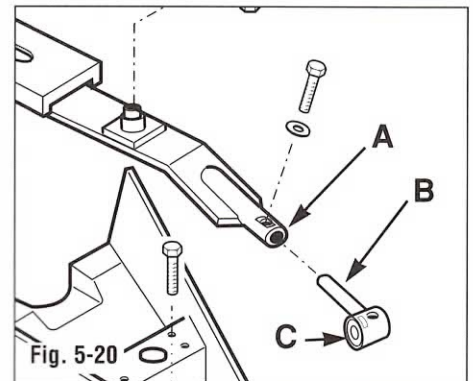

Fig. 5-20
The eccentric arm weldment tube (A, Fig. 5-20), the pitman assembly shaft (B), and the synthetic insert (C) can wear and will eventually loosen. To check: